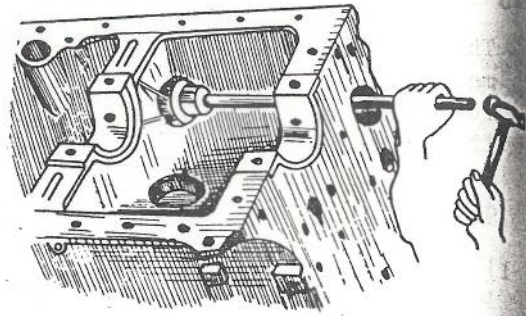

Fig. 5-45
6) The camshaft bearing should be removed and refitted into position with the aid of a camshaft bearing replacer. (8523-1360) (See Fig. 5-45)